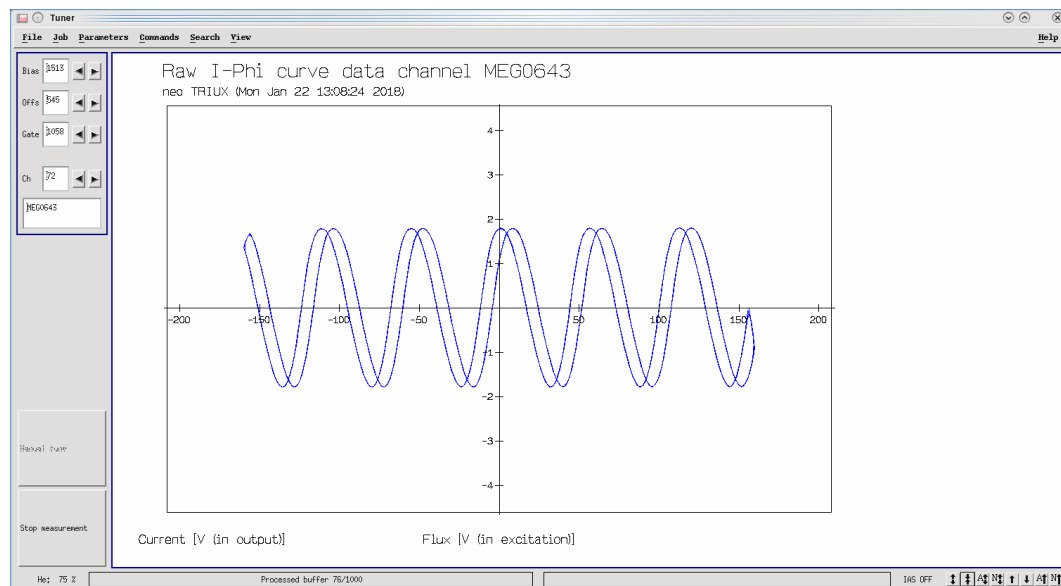

Figure 38: The current vs flux tune curve of a single channel.
- Control-left click on a modulation-depth bar to display the current vs flux curve tuning curve of the corresponding channel (Figure 38). Another control-left click will return to view all the channels.